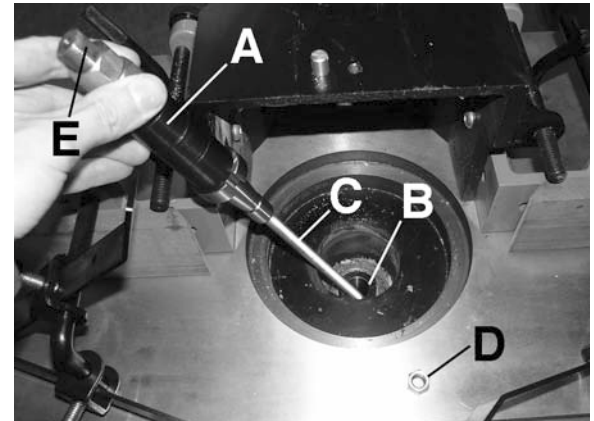
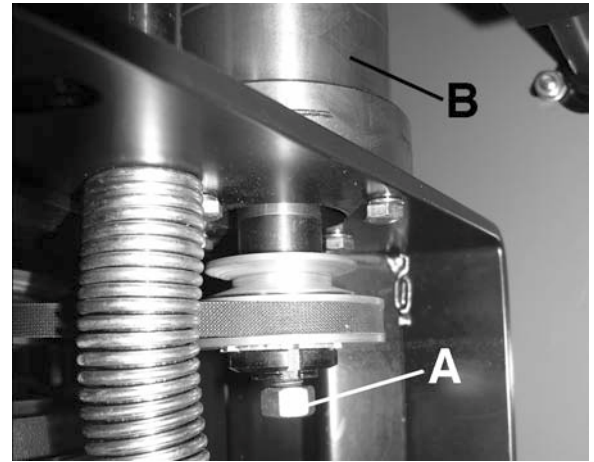

FIGURE 10
FIGURE 11
This shaper comes with a 1/2" and 3/4" spindle assemblies as standard accessories. Please note that 1" (model: KW-088) and 1-1/4" (model: KW-089) spindle assemblies are available as optional accessories. A spindle assembly (A) gets locked in a tapered seat (B) Fig.10 at the top of the spindle housing and is held in place with a threaded draw bar (C) and draw bar nut (D) below the spindle housing (B) Fig.11. To change a spindle, proceed as follows;
- 1) To loosen the spindle, place a wrench on the flat (E) Fig.10 on top of the spindle and another wrench on the draw bar nut (A) Fig.11. Unscrew the draw bar nut a few turns only until there are no more threads visible at the end, tap the draw bar nut gently upwards with a wooden block.